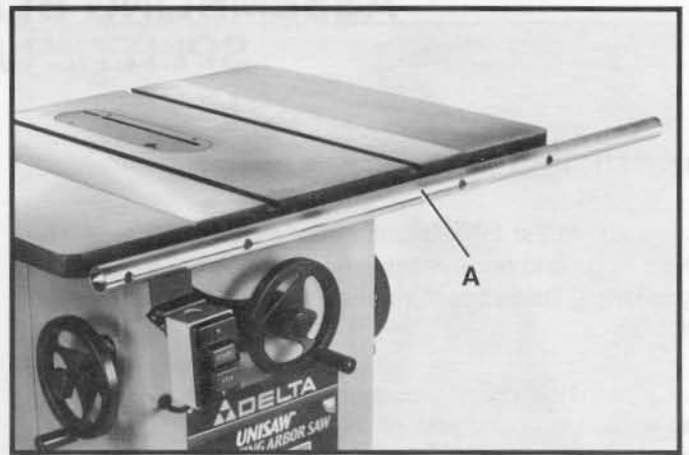

Fig. 13
1. The guide rail (A) Fig. 13, with the graduations, is to be assembled to the front of the table with the graduations in the up position